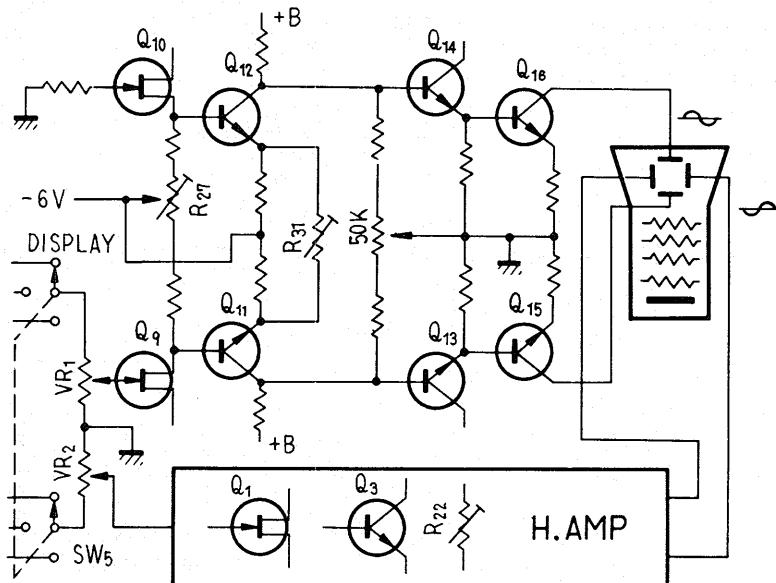

Fig. 6
6.4 VERT. AND HORIZ. AMPLIFIER CIRCUITS (Figs. 6, 7)
(The following explanations refer to the vertical amplifier; the horizontal amp functions in essentially the same manner.) Figs. 6 and 7 show the vertical amp circuit in detail. The total circuit consists of 4 differential amplifiers.